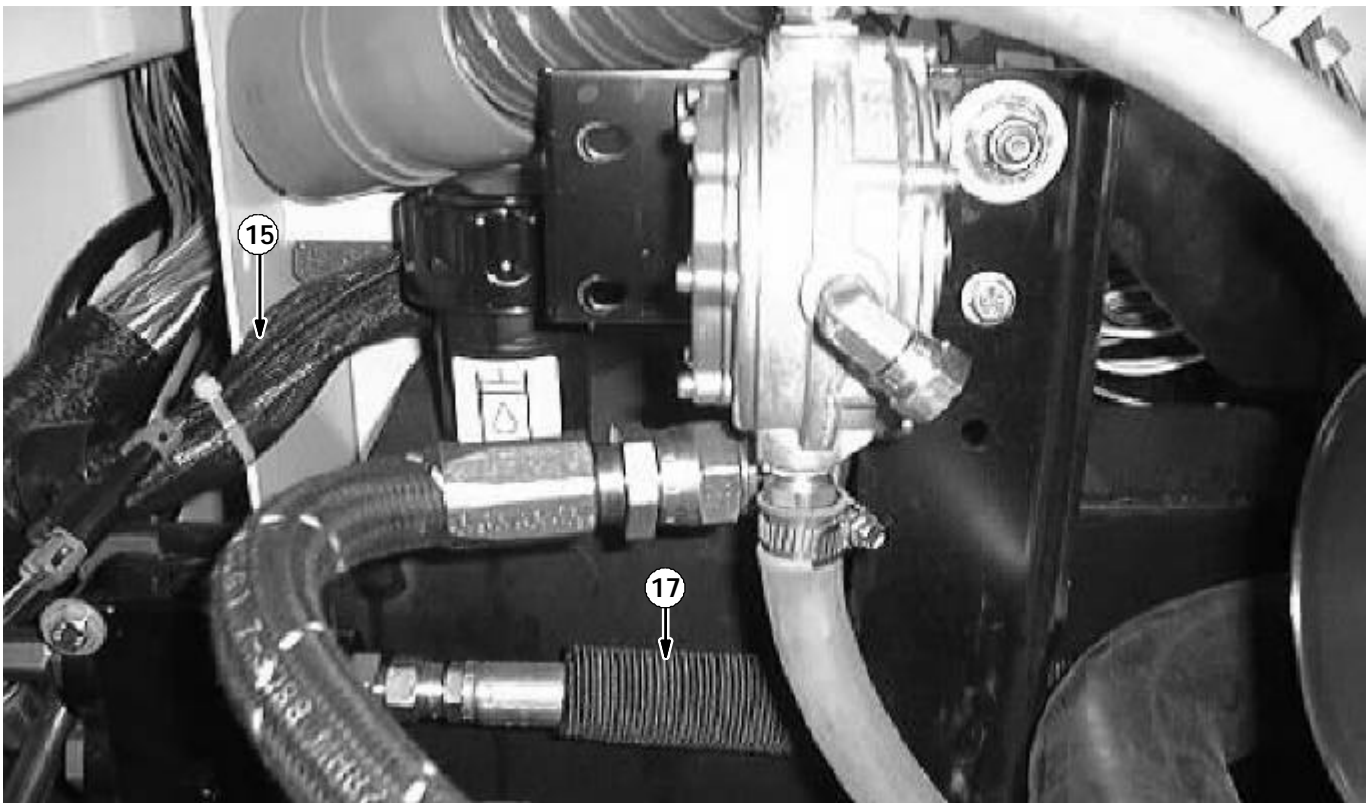

FIG. 8 - HYDRAULIC SLEEVE INSTALLATION
21. Disconnect the hydraulic hose that runs behind the engine and along the hydraulic tank. Install the sleeve (17) over the hose and reconnect the hose. (Refer to FIG. 8)